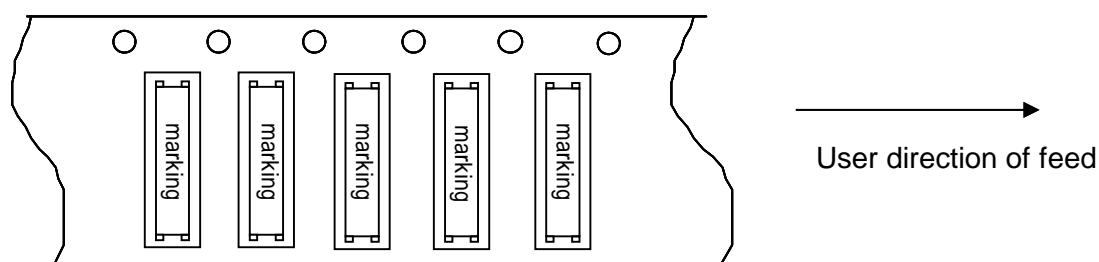

Fig. 1
- (1) Taping shall be placed in tapes in such manner as to assure that marking of the components is visible as per Fig. 1
[Figure 1]
- (5) Sample of the label display (display department, please refer to [Figure 1] [Figure 2])